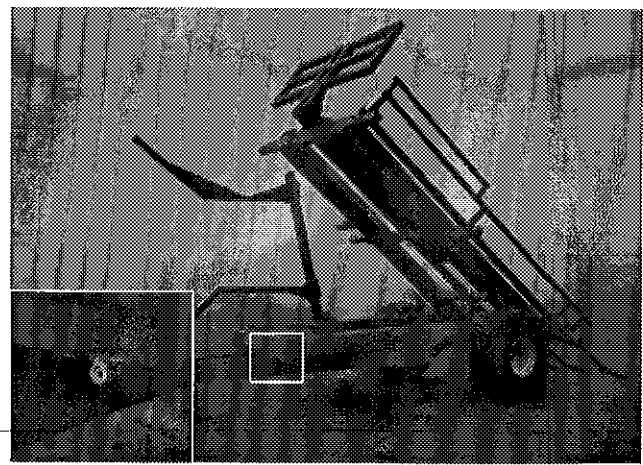

Figure 22
11) To unload in rows on the ground, the rear bale support must be used, which permits maximum capacity load of 8 bales. A maximum angle indicator is installed on the machine. When the yellow pin appears, the ideal unload angle is reached (Fig.22).